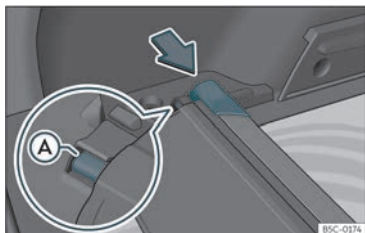

Fig. 121 In the luggage compartment: space to store the retractable shelf.
- Press the head of the retractable shelf in the direction of the arrow until it engages in its housing»» **Fig. 121**. Make sure that slide **A** fits into the corresponding housing.